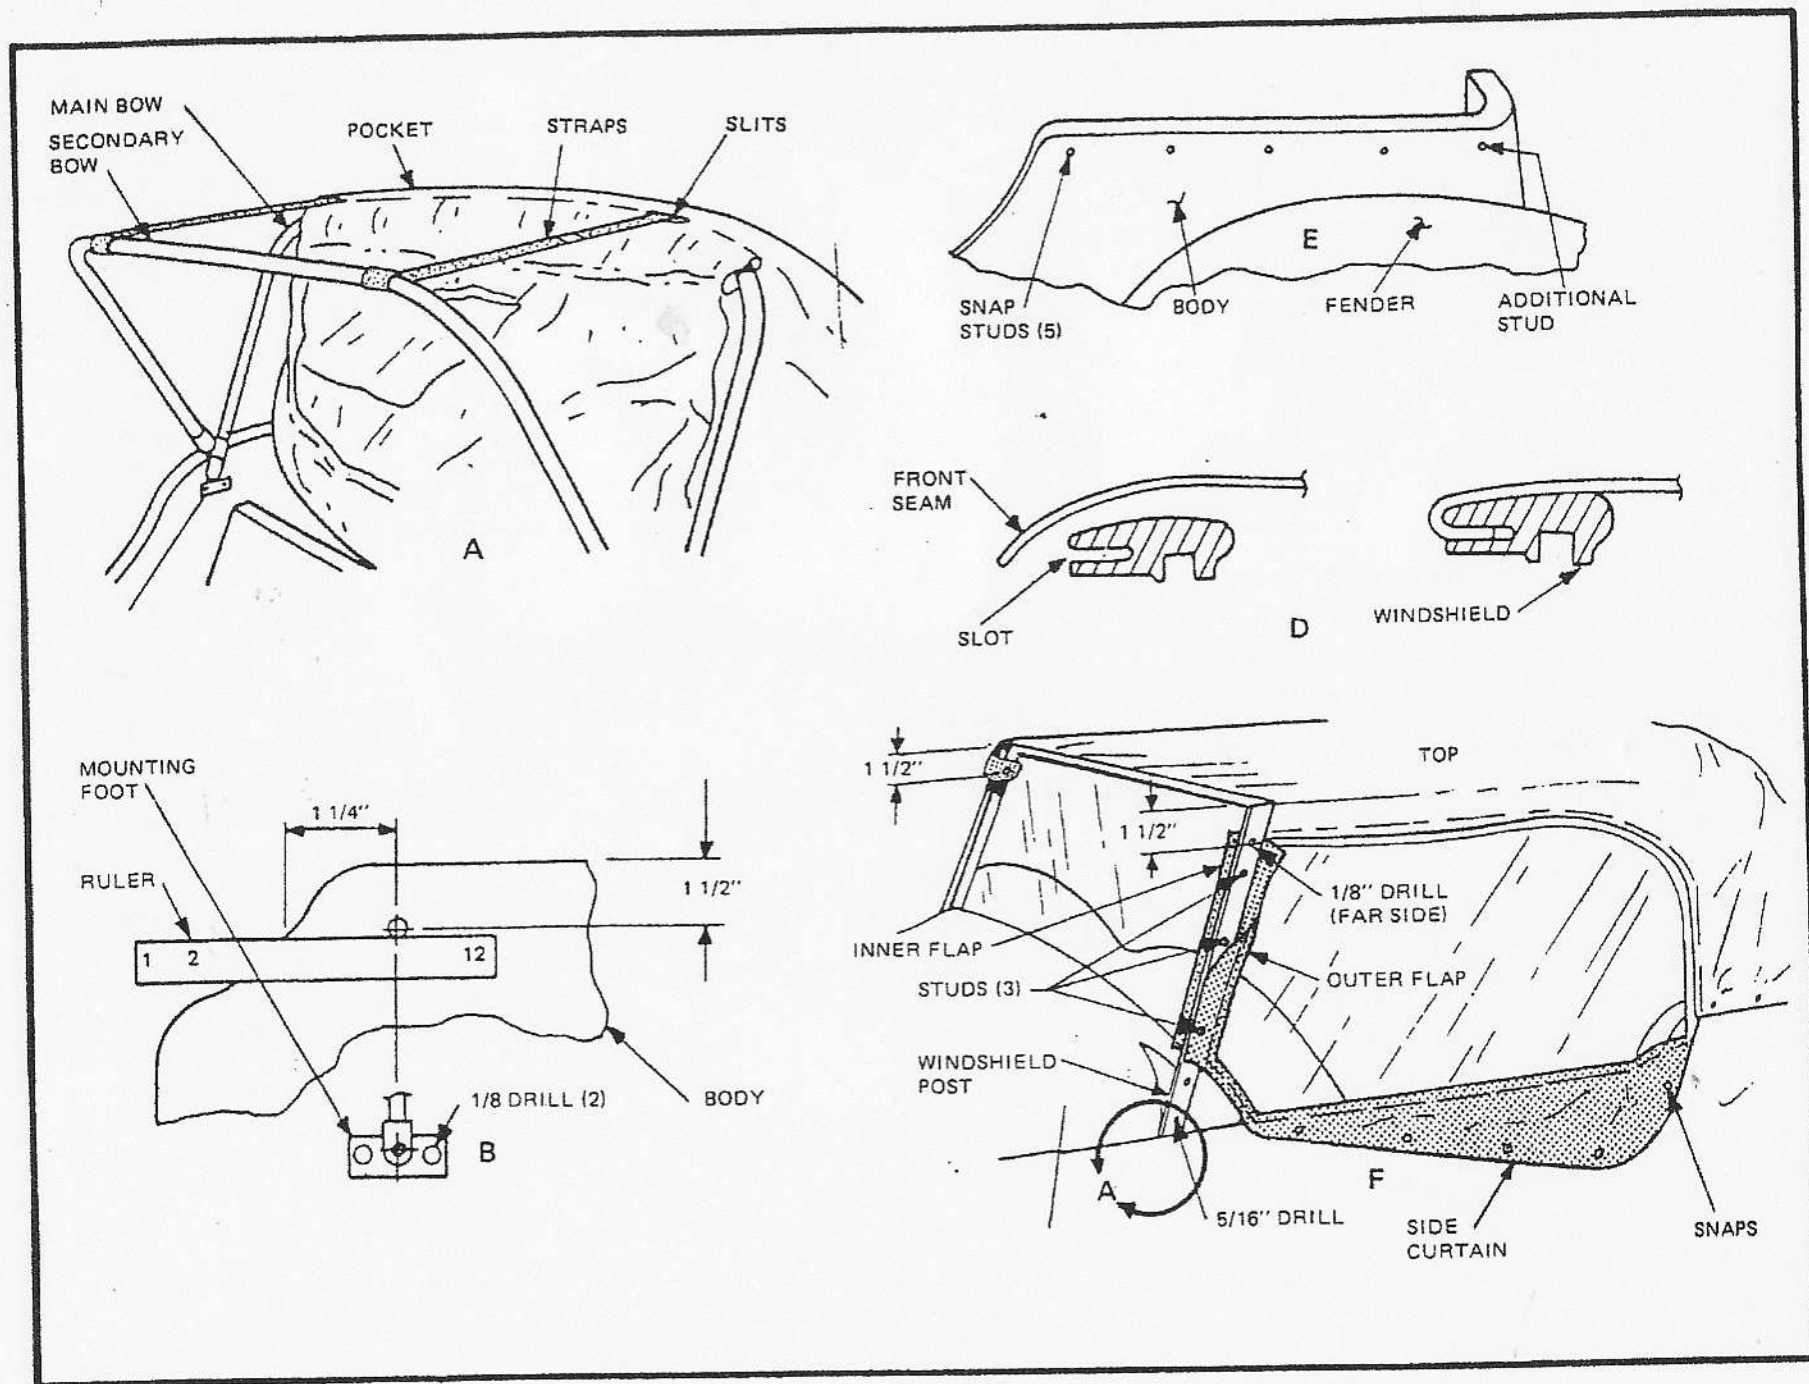

Figure 95
CONVERTIBLE TOP INSTALLATION (Refer to Figure 95)
- ☐ Pull sides of top taut along body over rear fenders. Mark for 5 snap studs equally spaced along body. Install an additional stud in rear corners and pull top down tight. (Figure 95)
- ☐ Locate snap studs on door and body where side curtain falls. Mark side curtain and install snaps. (Figure 95)